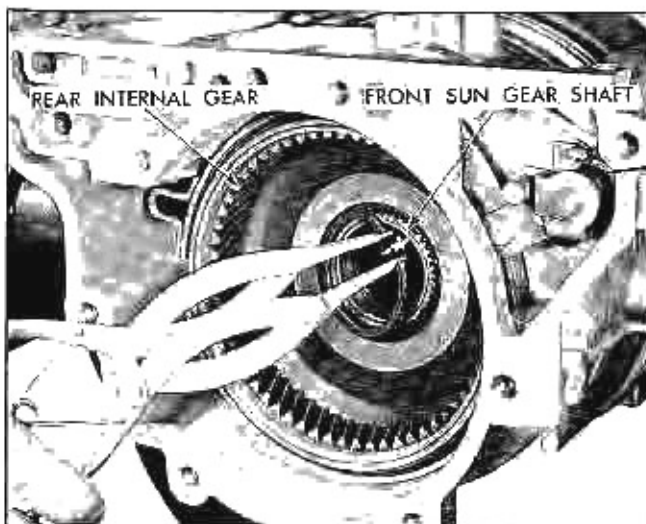

Fig. 59 Removing Rear Internal Gear Snap Ring
15. From the rear of the transmission, remove the rear internal gear to front sun gear shaft snap ring (Fig. 59).